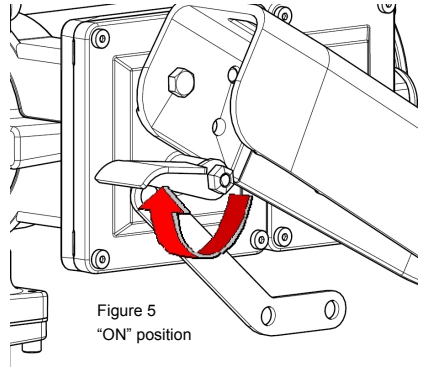

Figure 5
3. Move the switch lever to the "ON" position to power the pump (figure 5).